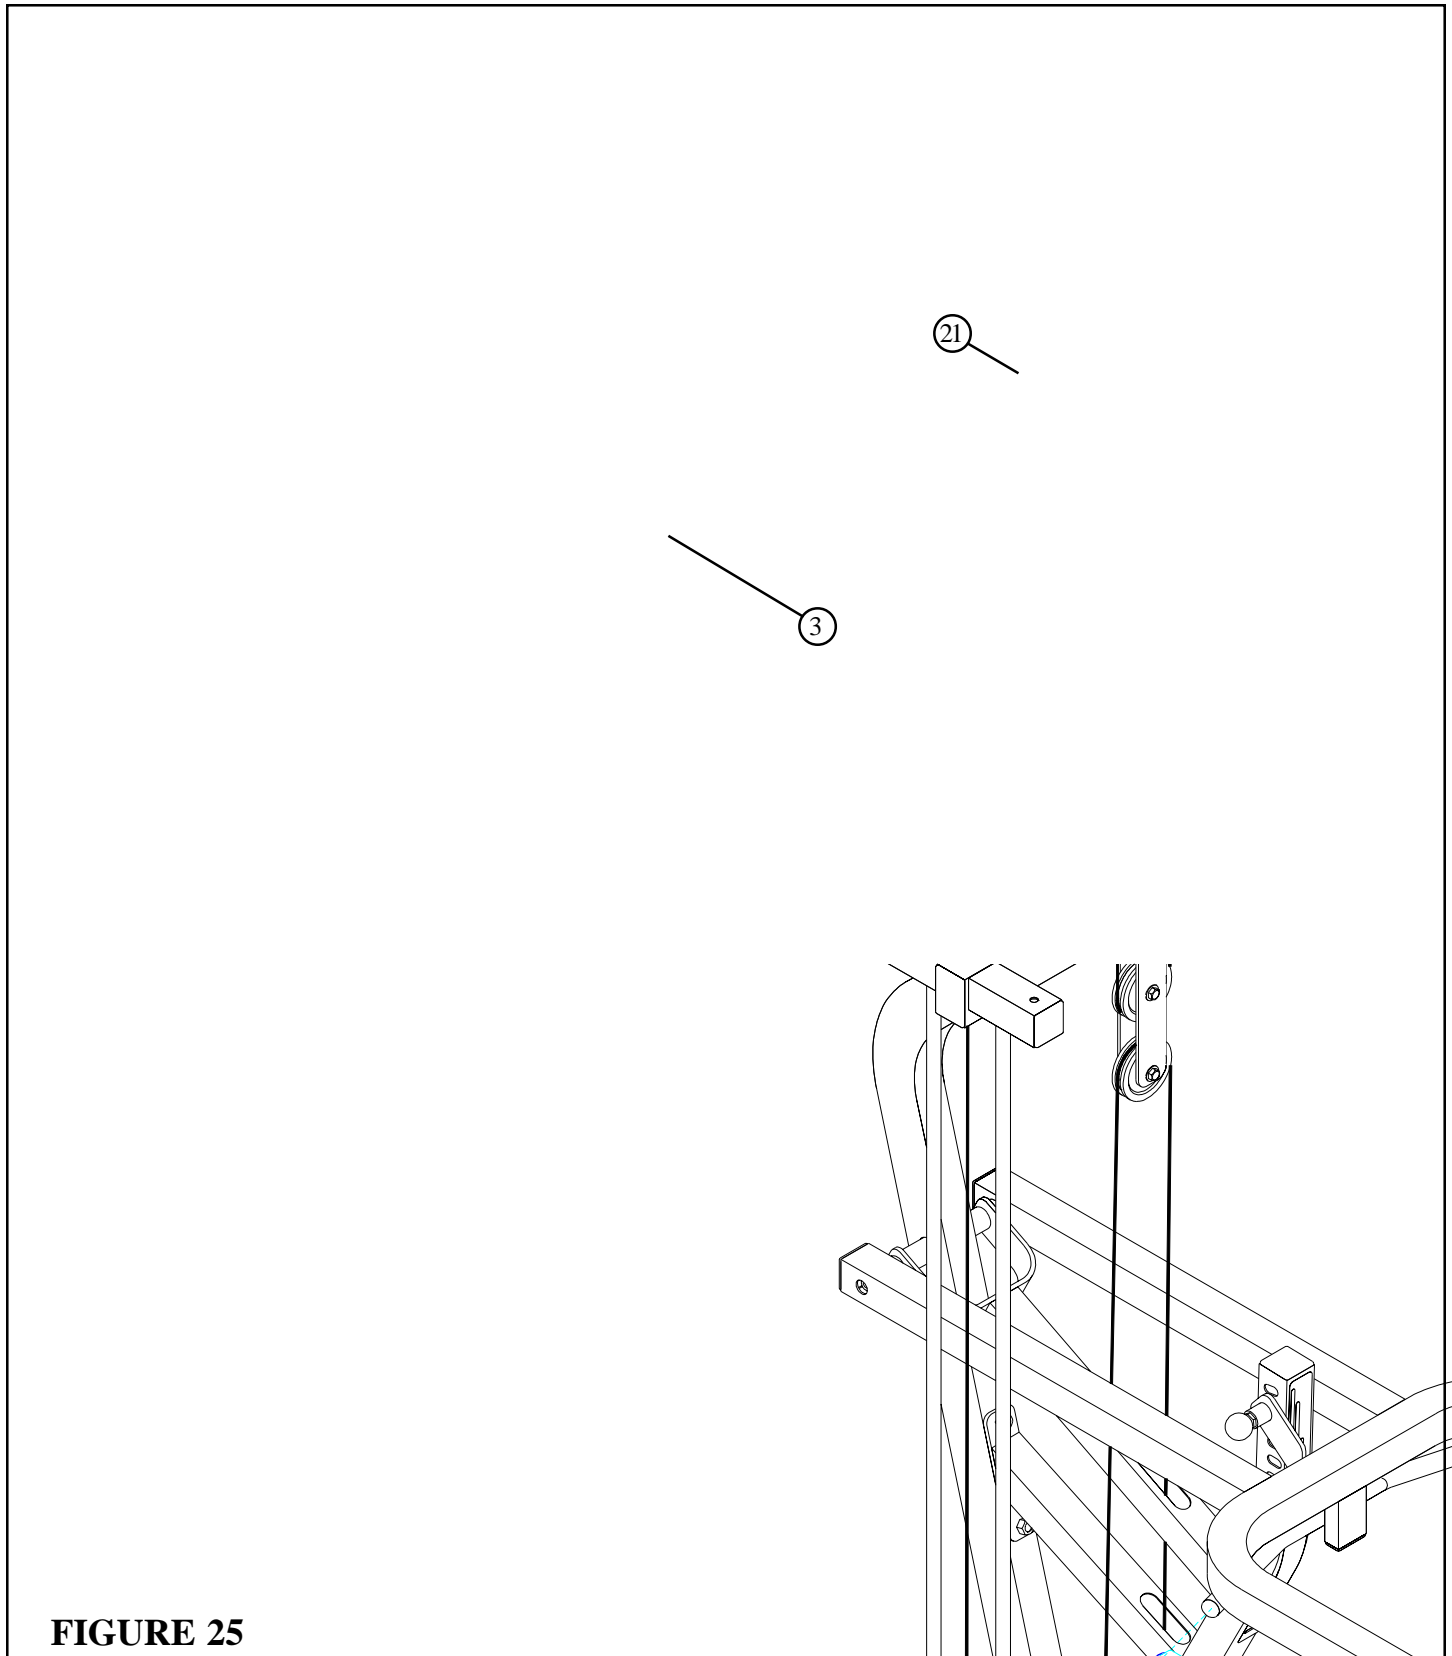

**FIGURE 24**
- Route ball end of CABLE (32) through the slot in BENCH FRAME (2) as shown in FIGURE 24.
- Assemble the metal ball end of the SECONDARY CABLE (32) to the CLEVIS (43) as shown in FIGURE 24.
- **SECURELY** assemble one 3-1/2" PULLEY (34) to the LEG SUPPORT (4) using one 3/8 X 3" BOLT (66), one 2-3/8" CABLE RETAINING CLIP (49), two 1/2" SPACERS (59) and one 3/8" LOCK NUT (50) as shown in FIGURE 24.
- Route the CABLE (32) around the pulley and **SECURE** the CLEVIS (43) to the tab on the LEG CURL/EXTENSION (8) using one 3/8 X 1-1/4" BOLT (63) and one 3/8" LOCK NUT (50). (**NOTE: Do not overtighten! Clevis should rotate freely.**)